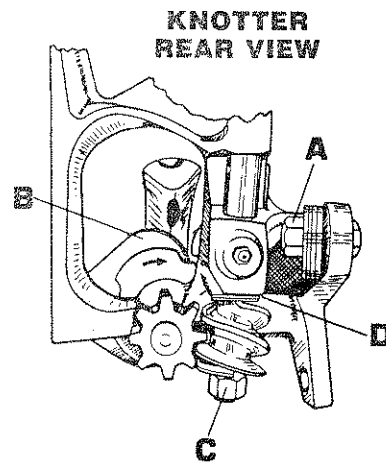

Fig. 25
The twine holder holds the twine in the twine disc while the bale is being made and tied. The pressure is regulated by bolt "A", see Fig. 25.
2. Adjust the twine disc notch so the left-hand side of the notch is even with the cleaner "B", see Fig. 25. Do this by loosening nut "C" several turns. Tap the nut end of the shaft to loosen the worm.
3. After the disc is set, turn the worm against the spacer washers "D", see Fig. 25, and tighten the nut.